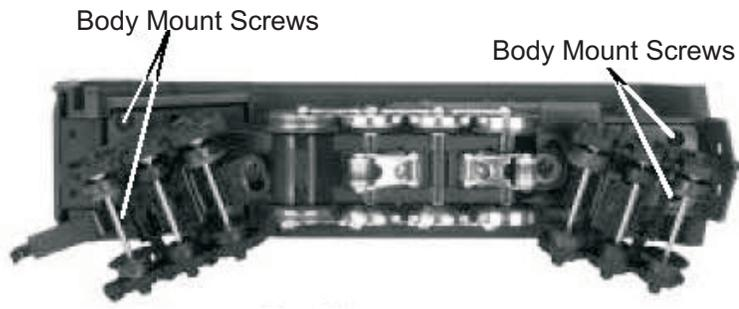

Figure 3. Greasing Points on the Engine and the Location of Body Mounting Screws
1. Unscrew the body mount screws as shown in Fig. 3 and remove the boiler.
Remove the locomotive boiler from its chassis as shown in Figure 3 on pg. 10. Once the body has been removed, rotate the headlight bulb counter-clockwise as seen in Figure 7 to remove.